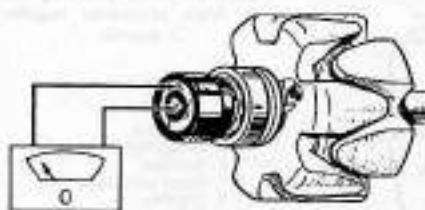
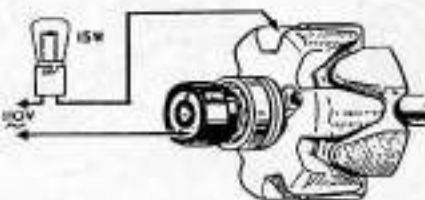

Fig. 102—View showing proper connection of ohmmeter (O) to slip ring for resistance check. Refer to paragraph 188.
Fig. 103—Check rotor winding for short circuit to body using test light as outlined in paragraph 188.
**188. ROTOR WINDING TESTS.** Check rotor winding continuity and resistance simultaneously by connecting a battery operated ohmmeter (Fig. 102) leads to slip rings. Resistance should be 3.3 ohms. Check rotor winding insulation by connecting a 110 volt, 15 watt AC current test light between each slip ring and rotor body. See Fig. 103. If test light comes on, rotor should be renewed.